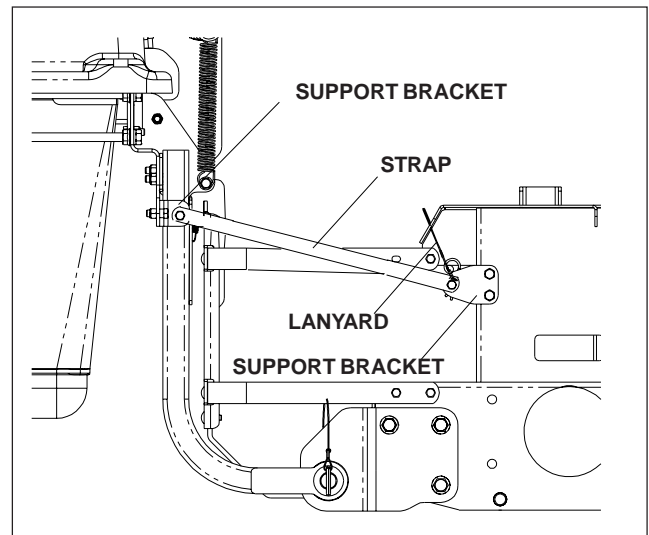

FIGURE 5
10. Install the (2) straps to the (2) support brackets on hitch assembly and the (2) support brackets on the frame. Figure 5.